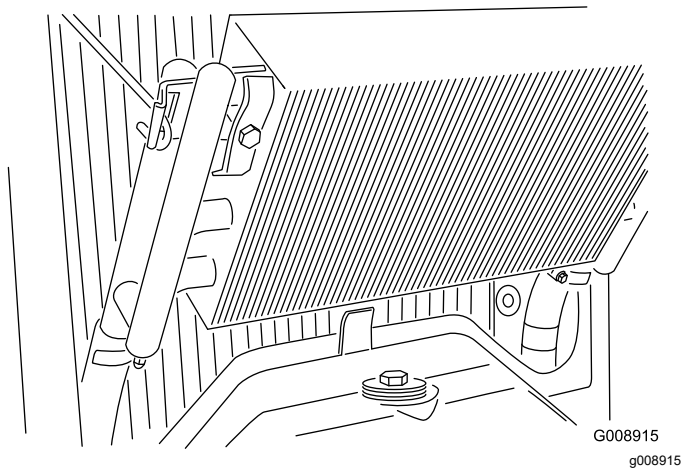

Figure 59
4. Unlatch the oil cooler and pivot it rearward (Figure 59).